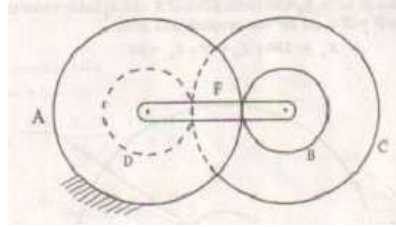

Fig. 4.5
5. An Epicyclic gear train is constructed as shown in fig 4.5. A fixed annular wheel A & a smaller concentric wheel B are connected by a compound wheel A_1-B_1 , A_1 gearing with A, B_1 gearing with B. The compound wheel revolves on a stud which is carried around an arm which revolves about the axis A & B. A has 130 teeth, $B_1=80$ teeth, pitch of A & A_1 being twice that of pitch of B & B_1 . How many revolutions B will make for one revolution of the arm. (solve it by algebraic method)